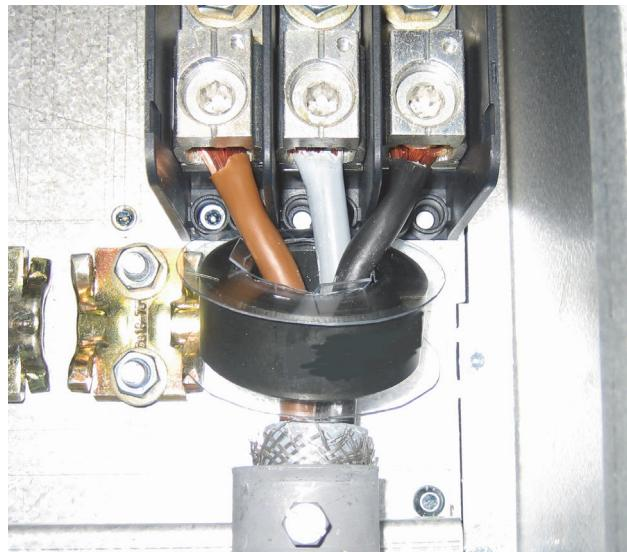

Fig. 49 Ferrite core mounted on the motor cables
Mount the ferrite core and its isolation sheet (included in the delivery) on the three motor phases U,V &W. The protective earth (PE) and the screen of the cable should be mounted outside the core see fig. 49.